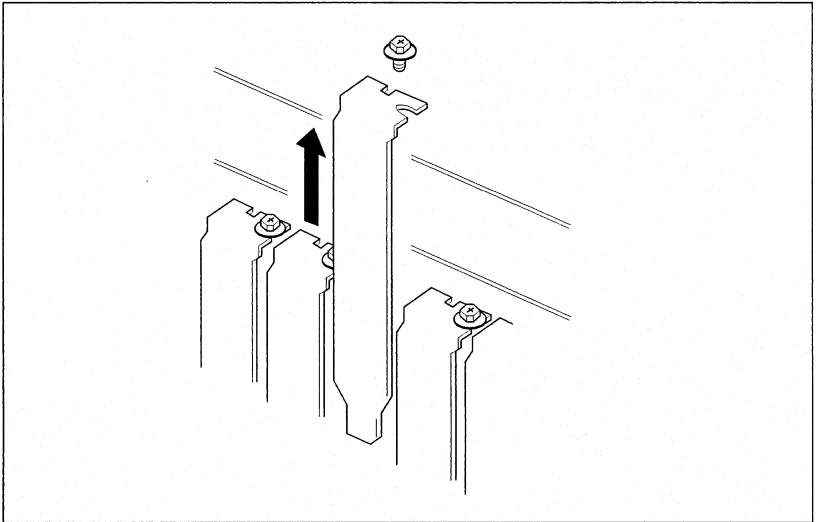

fig. 5-5
4. Locate an open expansion slot. The PAC is shipped with expansion slot covers. Remove the cover of the desired slot by unscrewing the screw (fig. 5-5).